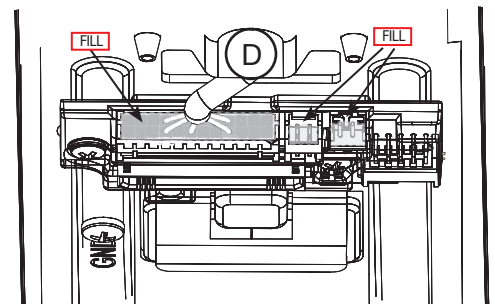

Fig. 11c
D. Ensure all openings on back of secured reader connector are covered completely with grease (Fig. 11c).